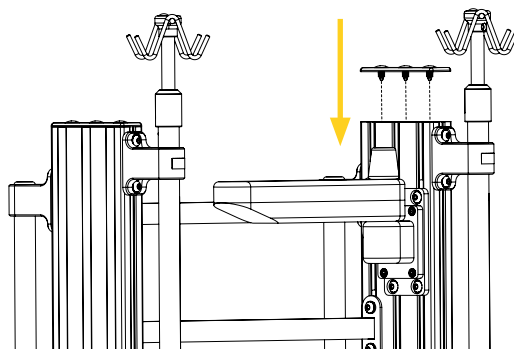

Figure 26: Draeger mounting system installed
7. Reinstall the cap on top of the vertical rail, ensuring to press sufficiently to properly secure it on the rail (Figure 26).